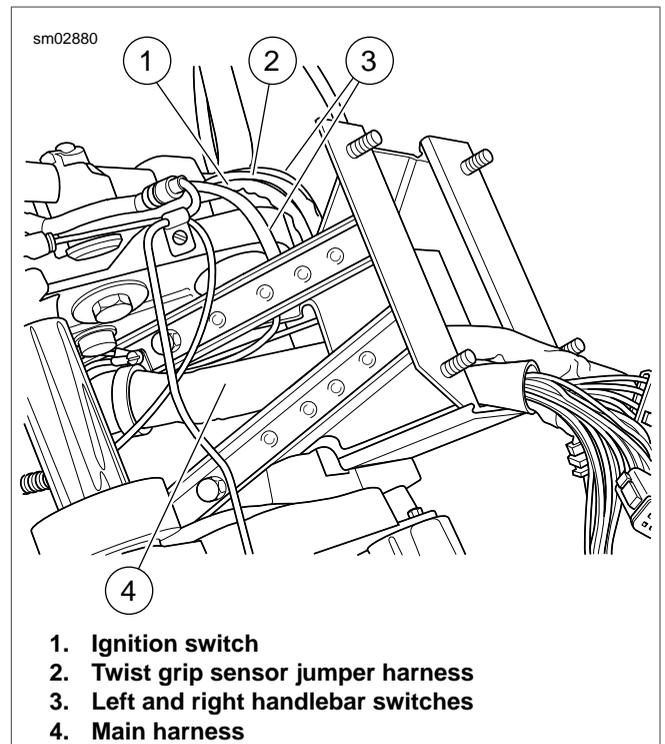

Figure 2-154. Route Main Harness and Conduit Thru Fairing Bracket
2. Route handlebar switch conduit and twist grip sensor jumper harness conduit in through opening at top of fairing bracket. See Figure 2-154.
3. Route main harness conduit terminating in the main to interconnect harness [2] and front wheel speed sensor [167] connectors in through opening on left side of fairing bracket, but first connect front wheel speed sensor connector if ABS equipped. Figure 2-154.
4. Route main harness conduit, terminating in the radio antenna cable [51], twist grip sensor jumper harness [204], ignition switch [33], and main to interconnect harness connectors, [1] and [15], in through opening on right side of fairing bracket. See Figure 2-154.